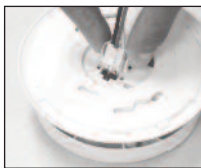

FIGURE 3
5. Remove the cardboard square from the connector pins and plug the AC QUICK CONNECTOR into the back of the alarm (see figure 3), making sure that the locks on the connector snap into place. Then push the excess wire back into the electrical box through the hole in the center of the mounting bracket.